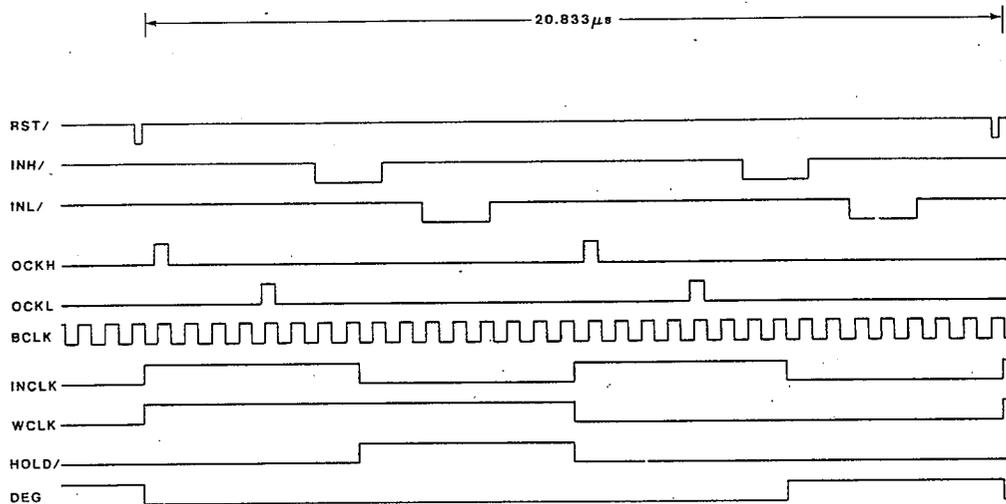

Fig. 3.5. Timing Diagram for 1300 Converter.
A timing diagram of critical signal waveforms appears in Fig. 3.5.
When HOLD/ is high (see Fig. 3.5), the input signal is sampled and the output of the track-and-hold circuit attains a voltage proportional (level-shifted and gain-adjusted) to the input voltage at that moment. The sampling period is 5.2 μ s. When HOLD/ goes low, the FET switch, U26, opens and the circuit is put in the hold mode. At this time, two current sources internal to the ADC, whose values are set by trimpot R18 and are proportioned internally at the ratio of 127:1, are switched on. These current sources are connected to the summing node of the integrator, U25. This provides a discharge path for the hold capacitor, C50, and the output voltage of the track-and-hold circuit now increases toward ground potential at a constant rate. This voltage is monitored by a comparator internal to the ADC. Simultaneous to the discharge of the hold cap, a 9-bit high-speed counter in the ADC is enabled and begins counting at 48 MHz; this frequency is set by the external crystal oscillator circuit composed of Y1, T1, and associated components. At the level set by trimpot R15, the previously mentioned comparator toggles and causes three actions inside the ADC: (1) the 9-bit counter is disabled, (2) a 7-bit counter is enabled, and (3) the high-current source is turned off, leaving only the low-current source to discharge the hold cap. The hold cap is now discharged at a much slower rate, completing the process of multiple-slope integration.